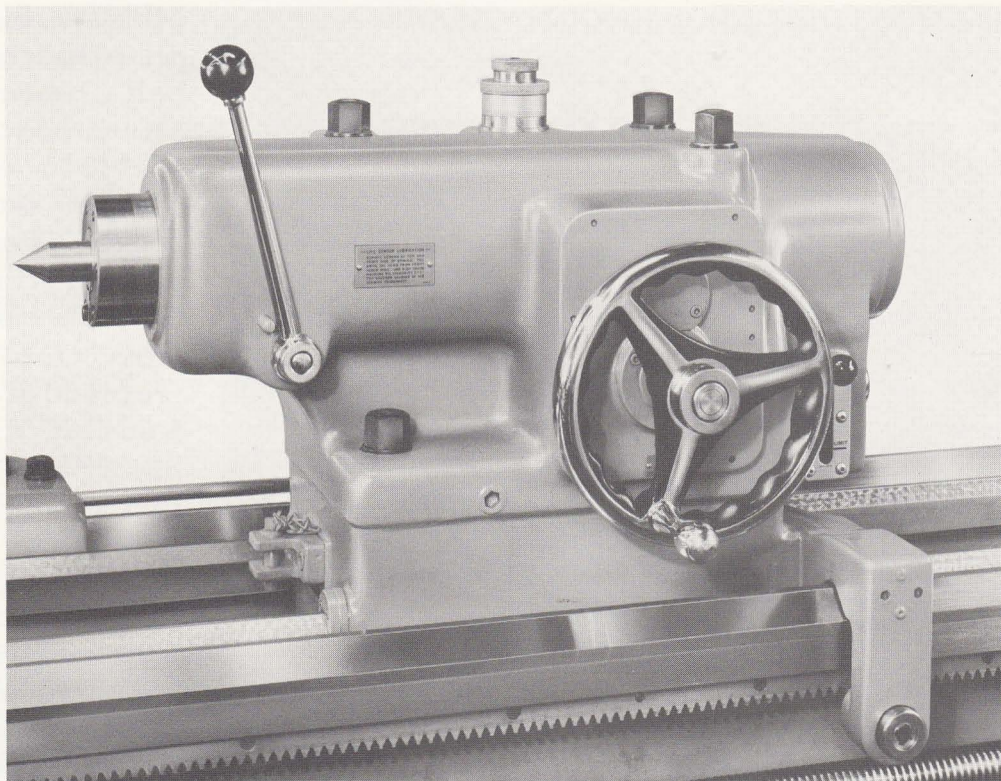

Figure No. 14—Tailstock
**TAILSTOCK**—The tailstock, figure No. 14, is provided with four clamping bolts for binding it securely to the bed. The spindle is clamped and unclamped in the barrel by raising or lowering the clamping lever at the front of the tailstock.